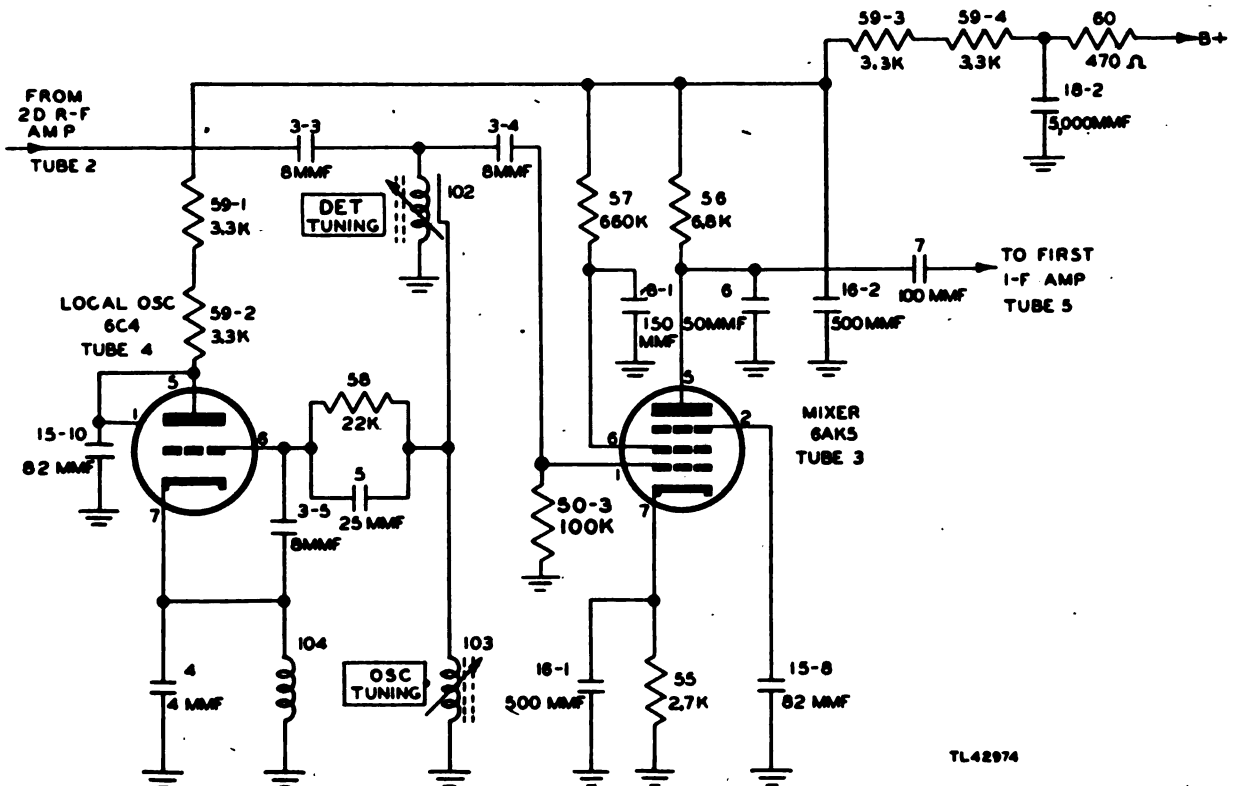
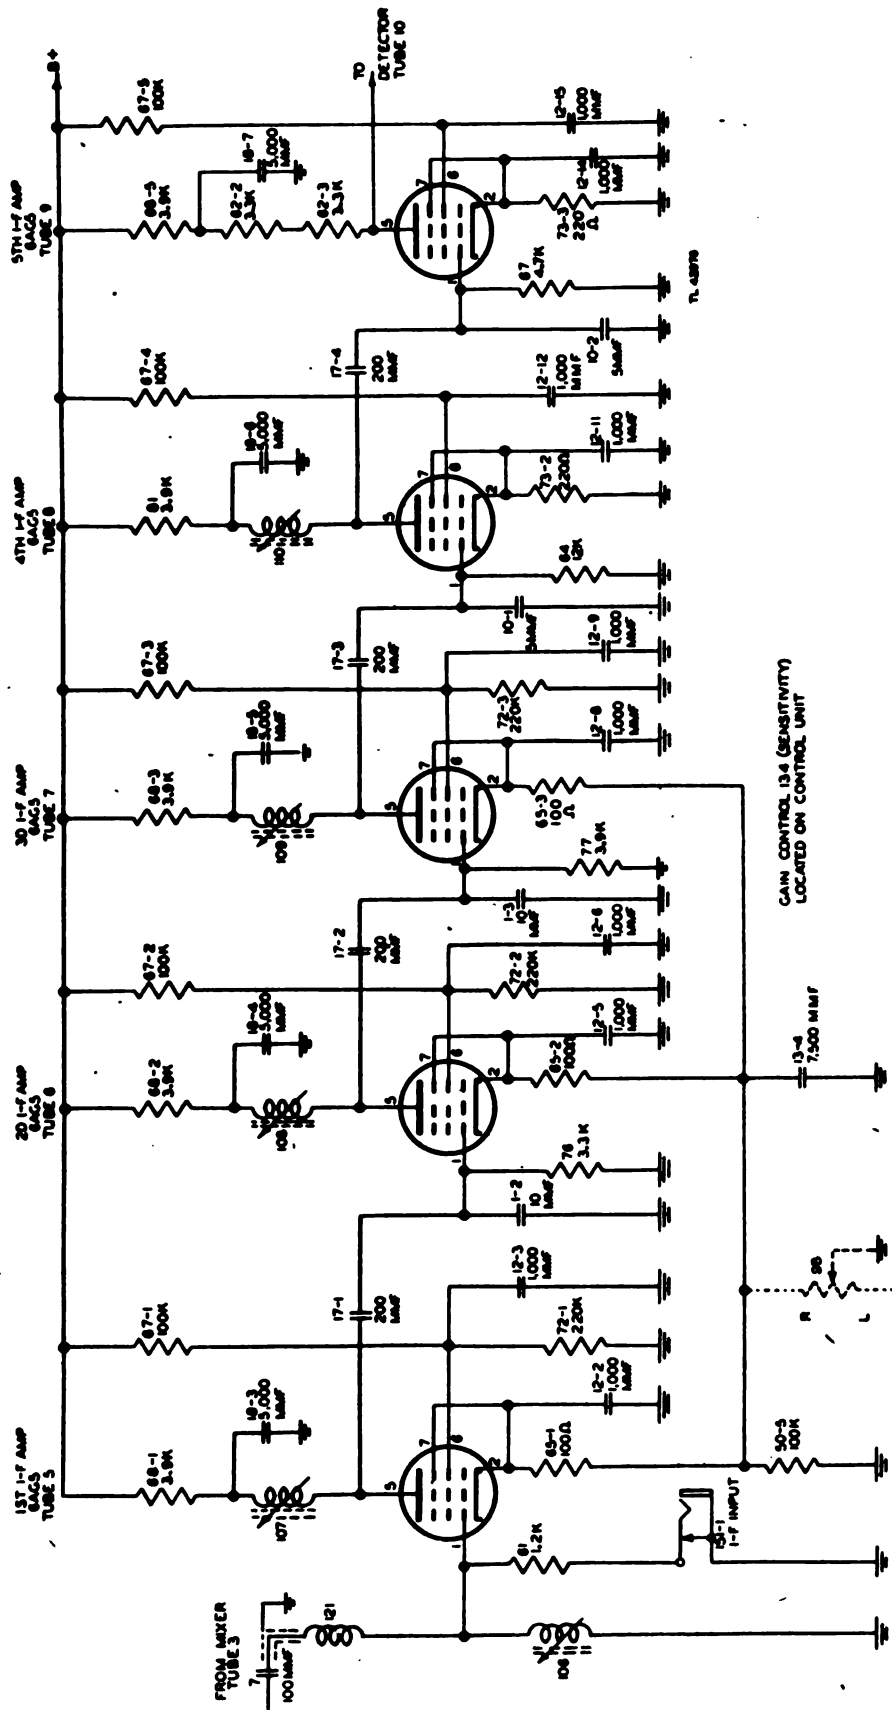
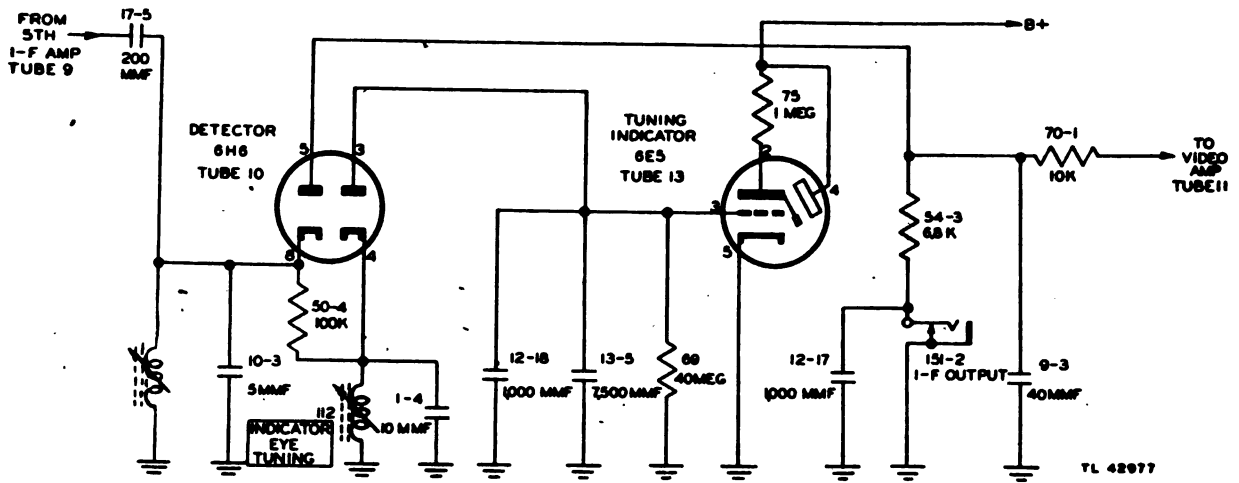

Figure 27. Receiver system, local oscillator and mixer circuits.
Figure 29. Receiver system, i-f amplifier circuit.
Figure 30. Receiver system, detector and tuning indicator circuits.
**c. Output Circuit.** Capacitors 3-1 and 3-2 couple the output of the first r-f stage to the grid of the second r-f amplifier. Tuning coil 101 is the plate load for the first i-f stage. Resistor 50-2 is the grid leak for tube 2; tuning coil 102 is its plate load. Capacitors 3-3 and 3-4 (fig. 27) couple the stage to mixer tube 3.
coil 104 and capacitors 4 and 3-5 in parallel with OSC. TUNING 103 which is permeability tuned. Capacitor 5 and resistor 58 form the bias circuit. Capacitor 5 has no appreciable effect on the resonant circuit because of its relatively large capacity. Resistors 59-2, 59-1, 59-3 and 59-4 are voltage dropping resistors and capacitor 15-10 is the plate bypass capacitor. At the low-frequency end of the band; it is possible to tune the oscillator to two frequencies, one above and the other below the signal frequency. Therefore, the tuning dials on the front panel should always be set to the same numbers when tuning the other receiver circuits. The output of the local oscillator is capacitively coupled to DET. TUNING coil 102 (fig. 27).
**a. General.** The mixer stage (fig. 27) uses a 6AK5 pentode (tube 3) for heterodyning the local oscillator and the r-f signal. The two signals are mixed on the control grid and filtered in the plate circuit to obtain the intermediate frequency of 11 mc. The output of the mixer tube is coupled to the grid of the first i-f amplifier tube 5.
**b. Operation.** The output of the second r-f amplifier is coupled to the grid of mixer tube 3 through coupling capacitors 3-3 and 3-4 (fig. 27). The local oscillator signal is capacitively coupled through coil 102 and capacitor 3-4 to the grid of the mixer. Resistor 50-3 is the grid leak resistor. The two frequencies are mixed in the tube and filtered at the plate by r-f choke 121 (fig. 29) and capacitors 6 and 16-2 (fig. 27) to give the 11-mc intermediate frequency in the first i-f tuning coil 106. Resistor 56 is the mixer plate load resistor.
**c. Intermediate Frequency.** The 11-mc intermediate frequency is the difference frequency obtained by beating the r-f input signal (157 to 187 mc) against the output (146 to 176 mc) of the local oscillator. R-f filter choke 121 (fig. 29), together with capacitors 6 and 16-2 (fig. 27), filters all components from plate to ground except the 11-mc intermediate frequency. For example, if the incoming signal is 167 mc, the local oscillator is tuned to 156 mc. This signal combines with the incoming r-f signal and produces a difference frequency of 11 mc.
**a. General.** All the i-f stages are similar except for the gain control in the first three stages, the fixed bias in the fourth and fifth stages, and the resistive plate load in the fifth stage. The stages are all permeability tuned by coils 106, 107, 108, 109, and 110 (fig. 29). Capacitance for the tuned circuits is obtained from capacitors 1-2, 1-3, 10-1, 10-2 (fig. 29), and 10-3 (fig. 30) across the coils in conjunction with the distributed capacitance of the circuit. The i-f signal is impressed on the grid of the first i-f amplifier through filter choke 121, and is amplified by the five i-f stages. Capacitors 17-1, 17-2, 17-3, 17-4 (fig. 29), and 17-5 (fig. 30) are interstage coupling capacitors. Capacitors 18-3, 18-4, 18-5, 18-6, and 18-7 are plate bypass capacitors used to keep the i-f out of the B+ supply.
intermediate frequency and therefore act as low resistance paths for the i-f signal. This effectively places the grid leak resistors 61, 76, 77, 64, and 87 (fig. 29) across the i-f tuning coils, tending to dampen the sharpness of tuning and broaden the response of the tuned circuit. This detuning and staggered tuning arrangement of the i-f stages gives a broad bandpass to the i-f section. The alignment frequencies for the i-f coils are given in paragraph 74d, table IV.
**c. Gain Control.** The receiver output is manually controlled by SENSITIVITY control 98 on the front panel of the control unit (fig. 29). This is a variable resistor connected in parallel with resistor 50-5 in the cathode circuit of the first r-f and first three i-f amplifiers (fig. 32). Increasing the resistance (rotating the SENSITIVITY control counterclockwise) puts relatively large positive voltages on the cathodes of tubes 1, 5, 6, and 7, reducing the amplification of these stages. Decreasing the resistance (rotating the SENSITIVITY control clockwise) reduces the grid bias and increases the gain of the stages. The gain of each i-f stage is approximately 12, but because of staggered tuning, the effective over-all gain of the individual stages is about 8 per stage.
**d. Fourth and Fifth I-F Stages.** The fourth and fifth i-f stages (tubes 8 and 9) are essentially the same as the three preceding i-f stages with the following exceptions: resistors 73-2 and 73-3 (fig. 29) provide a fixed bias of 1.5 volts d-c on the cathode of both stages whereas the bias of the first three stages is controlled by the gain control; the fifth i-f amplifier is resistance loaded by resistors 62-2 and 62-3. Tuning coil 111 and tuning capacitor 10-3 are in the cathode circuit of the diode detector. Capacitor 17-5 (fig. 30) is the coupling capacitor between the fifth i-f amplifier and the detector section.
**a. General.** A double diode, tube 10, is used as a detector (fig. 30). One section of the diode supplies the signal output to the video stage; the other section detects a part of the i-f signal for the tuning indicator.
**b. Video Section Detector.** The input to the double diode consists of pulses of i-f signal from the output of the fifth i-f amplifier. Capacitor 17-5 (fig. 30) is the coupling capacitor between the fifth i-f amplifier and the cathode of the detector. The tuned circuit consisting of coil 111 and ca-
The output from the plate of the tuning indicator section detector is essentially a d-c voltage of negative polarity. The R-C network, resistor 69 and capacitor 13-5 (fig. 30), has a very high time constant so that a d-c potential is obtained which is an indication of the amplitude of the video signal. Tuning-eye tube 13 is essentially a triode with a fluorescent target placed around an upper extension of the cathode. Between cathode (pin 5) and target (pin 4), there is a small ray-control electrode connected to the plate (pin 2) and held at target potential when no plate current is flowing. The target glows green as electrons passing the plate strike the fluorescent screen. With plate current flowing, the ray-control electrode between cathode and target has a lower potential than the target because of the voltage drop across resistor 75. This impedes electron flow to the target causing a shadow on the fluorescent screen. More negative voltage applied to the grid of the tuning eye from the tuning-eye section of the detector results in less electron flow through the tube, a smaller drop across resistor 75, and a smaller shadow on the screen. Therefore,